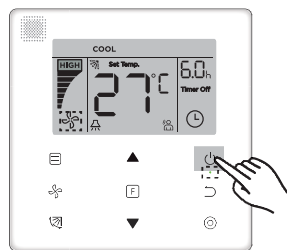

Figure 6.1
- 1) Press  (ON/OFF) button, and the Operating Indicator "  " on the wired controller will light up, while the ON/OFF icon "  " of the indoor unit on the display will spin to indicate that the indoor unit has started running. (see Figure 6.1)